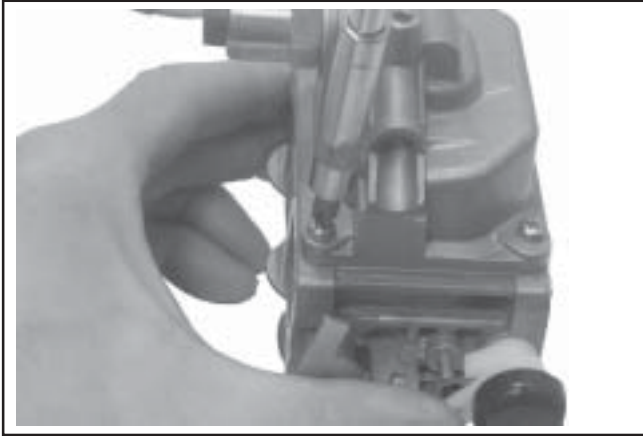

Figure 5-32. Installing Fuel Bowl.
16. When the proper float height is obtained, carefully reinstall the fuel bowl, using new O-Rings onto the carburetor. Secure with the four original screws. Torque the screws to $2.5 \pm 0.3 \text{ N}\cdot\text{m}$ ($23 \pm 2.6 \text{ in. lb.}$). See Figure 5-32.